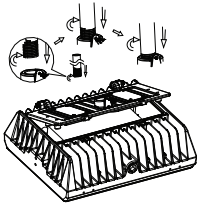

Figure 19
- 3.After the wiring is completed,put the threaded pipe into the hole.turn it clockwise to tighten it.and then tighten the nearby fixing screw and hold it against the threaded pipe(Figure 19).